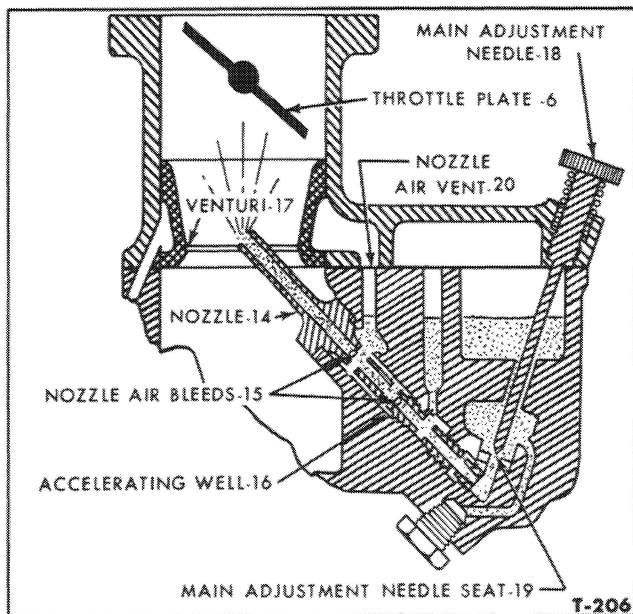

Figure 4—Power Fuel System
3. The power fuel system, shown in Figure 4, supplies fuel to the engine in the speed ranges beyond idle and slow speed.
As engine speed is increased, the air flow through the venturi (17), Figure 4, is increased. The increased air flow creates a vacuum at the nozzle tip (14). The pressure then is lower at the nozzle than it is in the fuel bowl chamber (9), Figure 3, and the accelerating well (16), Figure 4. Fuel, therefore, flows from the fuel bowl, through the main adjustment needle and seat assembly (19) and out the nozzle (14) and into the air stream at the venturi. At the same time, the
fuel in the accelerating well is forced through the nozzle air bleeds (15) in the nozzle. However, due to the size of the power jet and the restriction at the main adjustment needle seat, the fuel in the accelerating well is soon exhausted, and air enters the accelerating well through the nozzle air vent (20), Figure 4. The amount of air that can enter is limited by the size of the nozzle air vent. This air helps to atomize the fuel passing through the nozzle, and it helps to regulate the rate of discharge of the fuel fed from the accelerating well during acceleration. It also provides the correct mixture proportions for full throttle operation. When the throttle plate is opened suddenly to the wide open position, the fuel in the accelerating well is forced out through the nozzle air bleeds very rapidly, providing the extra rich mixture the engine needs to meet the sudden load. When the throttle is closed again, fuel fills the accelerating well, ready for the next acceleration.
2. Open the drain cock at the bottom of the fuel filter base, Figure 4. Close the drain cock when the fuel begins to flow.